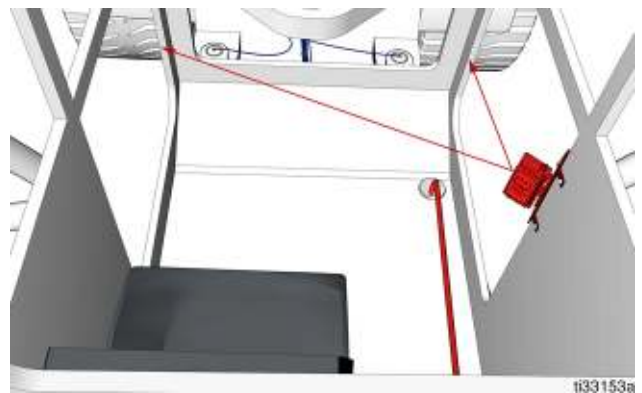

FIG. 15
3. Install the bracket inside the cab using existing holes in the cab, and the hardware provided in the kit (FIG. 15).